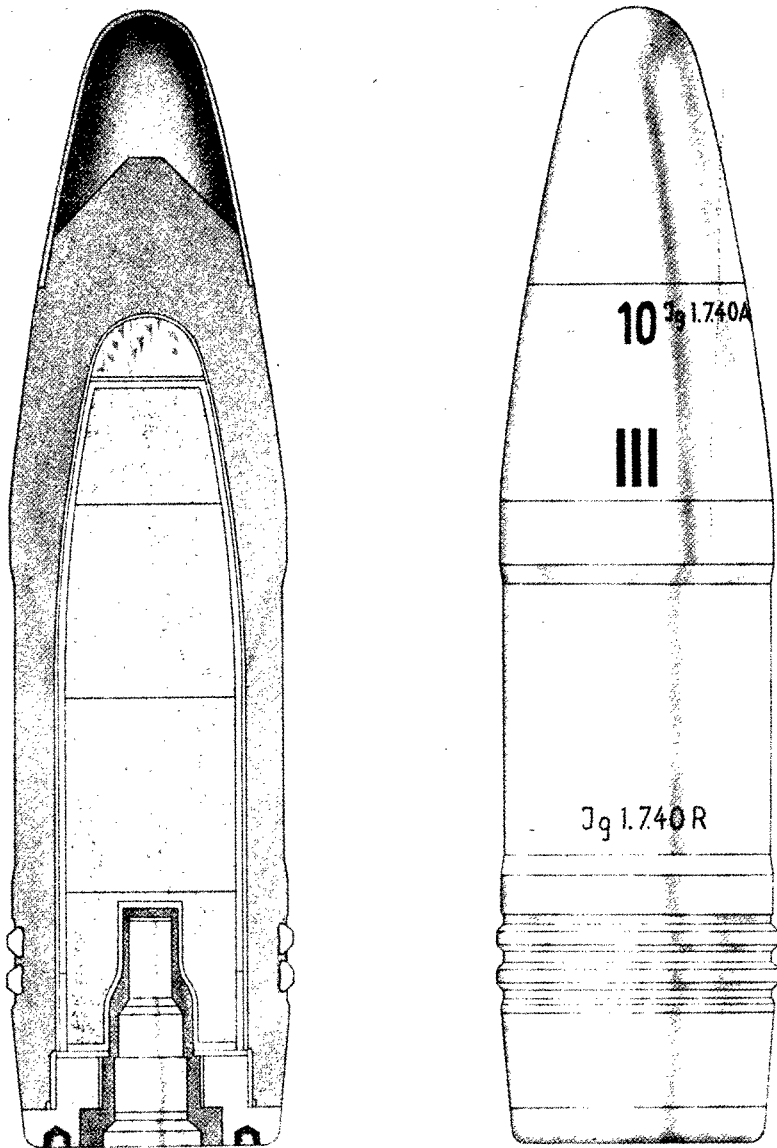

Figure 512—Anticoncrete Projectile, Type 19, 150-mm, 15-cm Gr. 19 Be.
**GERMAN NOMENCLATURE:** 15-cm Gr. 19 Be (Granate 19 Beton). (See fig. 512.)